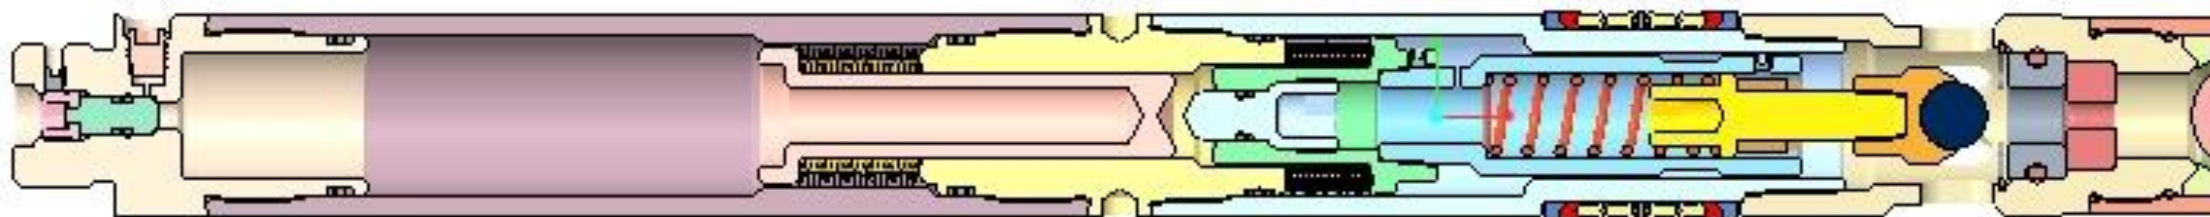

Figure 12
- Valve features sealed DEWB-dual edge welded bellows subassembly filled with non-compressible de-gassed silicone oil, see figure 12 below.